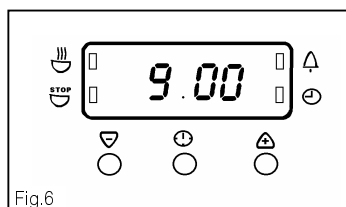

Fig.6
- i) Ensure the electricity supply is switched ON and that the correct time of day is displayed, e.g. 9 a.m. as Fig. 6.